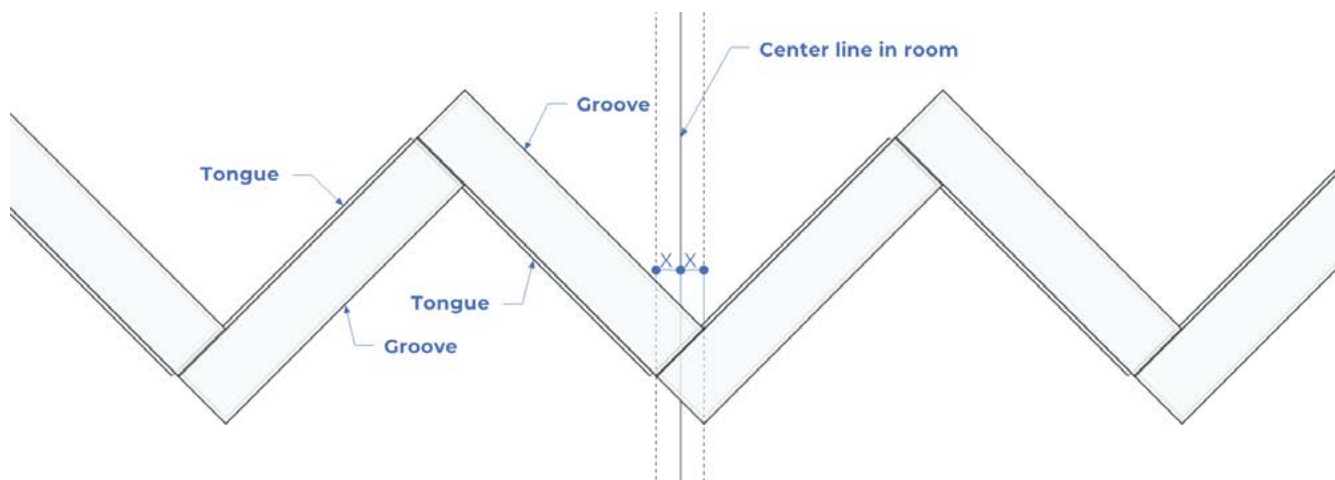

FIGURE 2
1. Determine the center line and starting position as illustrated in Figure 2.
For proper tongue and groove engagement, maintain consistent tongue direction throughout the installation: All tongues on long edges must point in the same direction as illustrated in Figure 2.